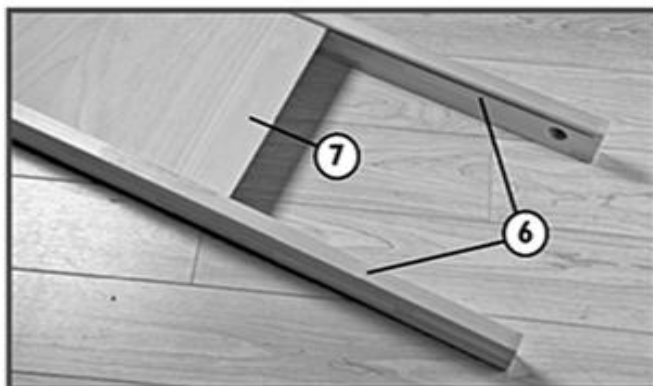

Fig. 2
2. Slide the Center Shelf (7) into the grooves of both Middle Stretchers (6) as shown in **Fig. 2**.